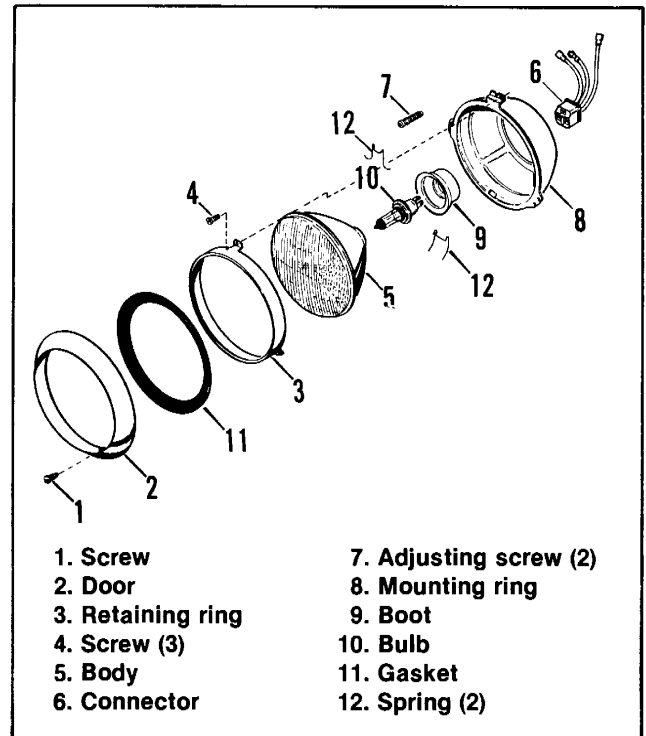

Figure 8-25. Headlamp Assembly — FXRT
4. See Figure 8-25. Turn top adjusting screw (7) in or out to raise or lower the top of the main beam of light so it is even with, but not higher than, the horizontal line.